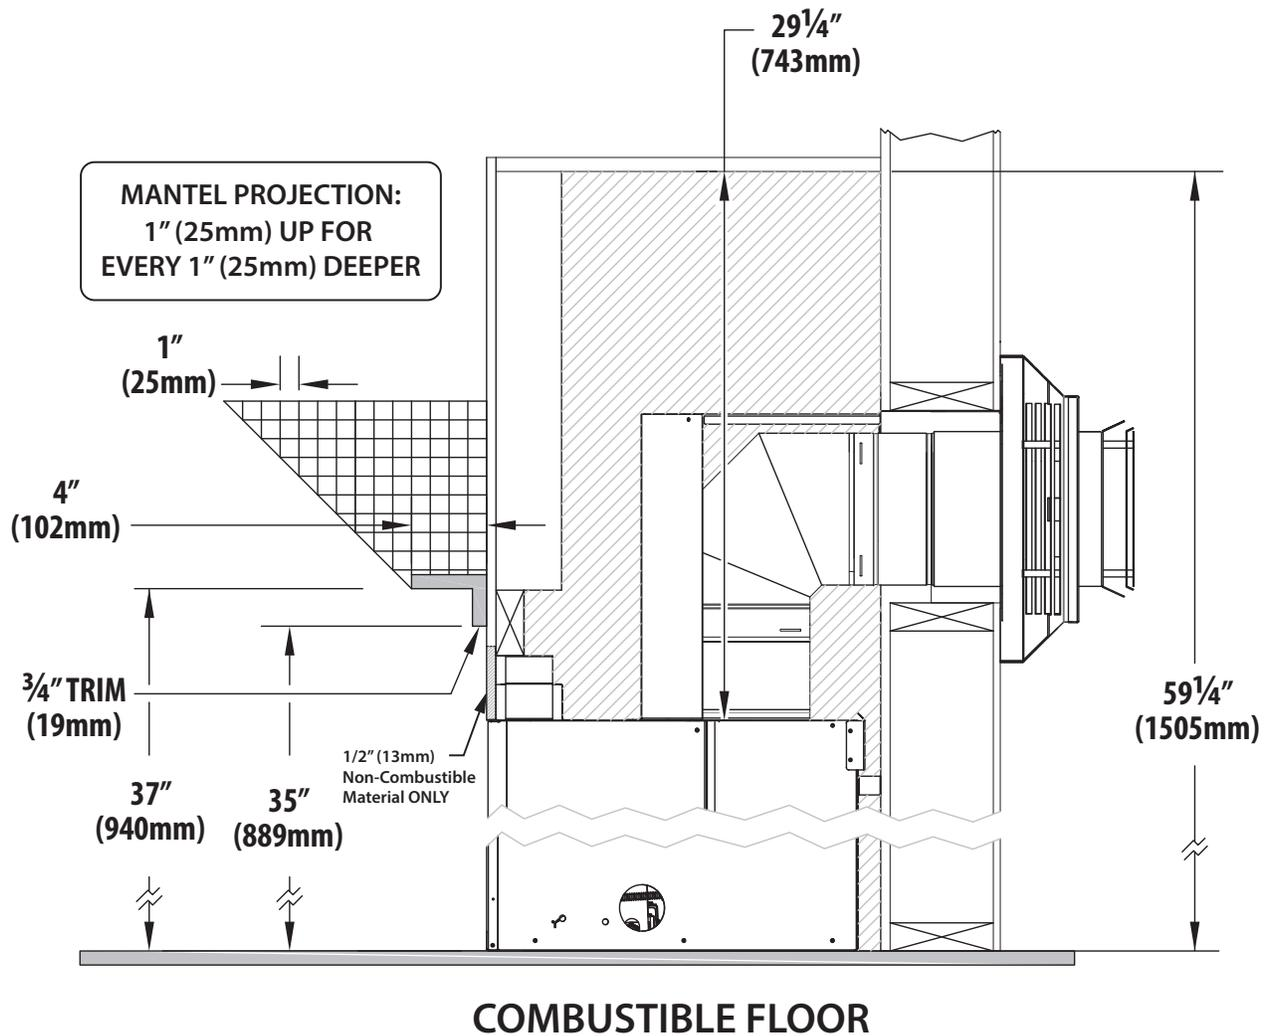

FIGURE 4.1 Combustible Mantel Requirements
- Combustible Mantel Projections - As referenced in **FIGURE 4.1**, the 3/4" trim can start at 35" (889mm) above the base of the fireplace enclosure with a 4" (102mm) mantel starting at 37" (940mm) above the base of the fireplace enclosure. Mantel projections can increase 1" (25mm) of depth for every 1" (25mm) of height starting at the 4" (102mm) mantel.